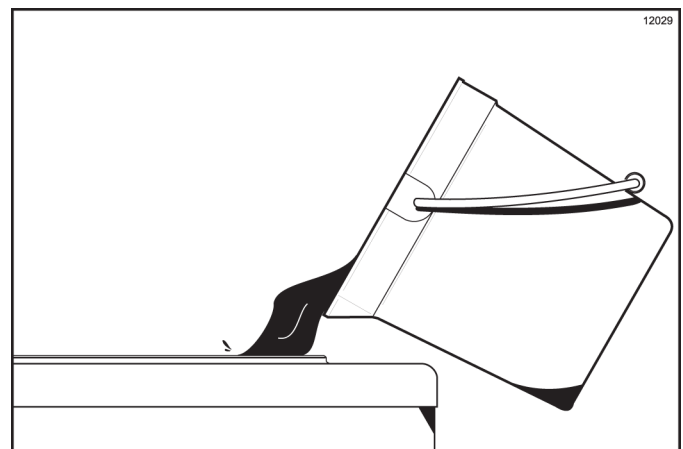

Figure 6-71
1. Pour 2 gal (7.6 L) of cool, clean water into the mix hopper. With the white-hopper brush, scrub the mix hopper, mix-level sensing probes, and outside of the agitator driveshaft housing. Using the double-ended brush, brush-clean the mix inlet hole. (See Figure 6-71.)